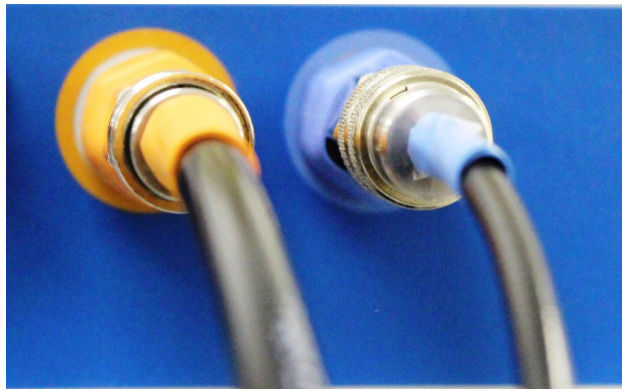

FIGURE 14: COLOR CODED PNEUMATIC CONNECTORS
3. Insert the corresponding connections on the pneumatic connectors as shown below in Figure 14. The sliding ring will need to be manually pushed-in on the orange connector.